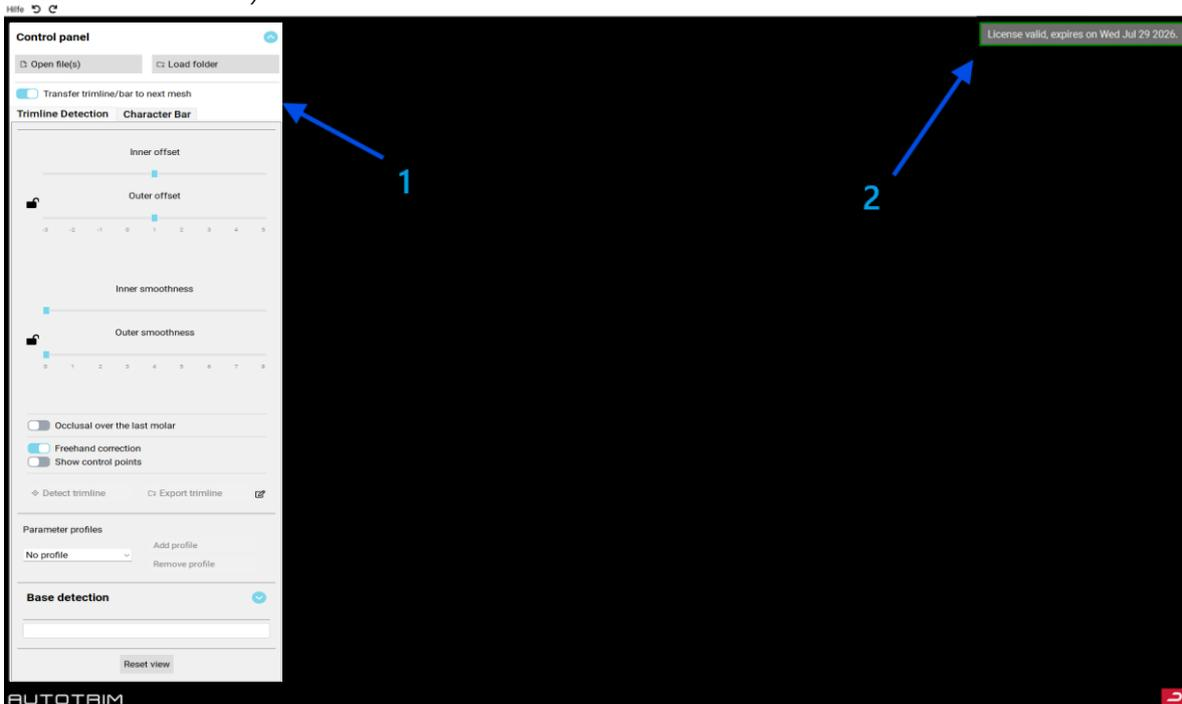

Figure 1: User Interface
The user interface (UI) (Figure 1) has a black background representing the 3D display area. On the left side you will find the control panel (1) and on the upper right side important process information (2). If you start the software and have not loaded a model yet, your license information will be shown here (e.g.: "License valid, expires on Wed Jul 26 2026").